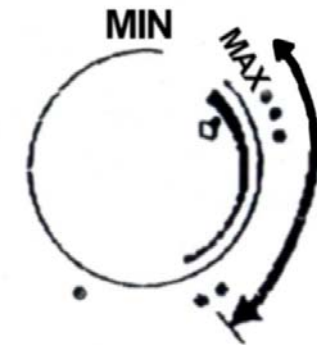
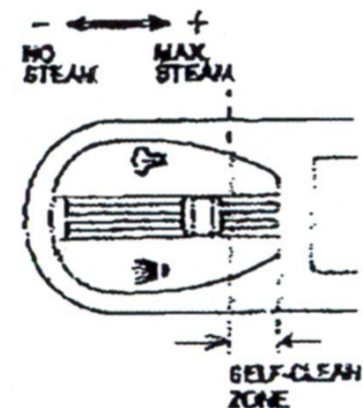

Fig. 11
Fig. 12
- As indicated on the temperature control dial (1) and the fabric table, steam ironing is only possible at the higher ironing temperature settings: •• for moderate or ••• for maximum steam.
- With conventional steam irons, water may leak from the soleplate if too low a temperature has been selected. However, your new steam iron has an “Anti-Drip” feature which will automatically stop the iron from steaming at too low a temperature. When this happens, you will hear a “Click”. Set the temperature control dial (1) to the advised position. Steaming will restart when the appropriate temperature has been reached.
- Place the iron on its stand (12) and set the temperature control dial (1) to the required position within the “steam area” (•• for moderate or ••• for maximum steam). (Fig. 11)
- After the thermostat light (7) has gone out and has come on again, you may start ironing.
- Slide the variable steam control (2) to the required position. (Fig. 12)